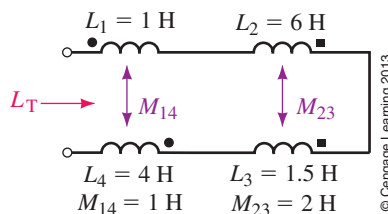

FIGURE 23-80
- For Figure 23-80, determine L_T .